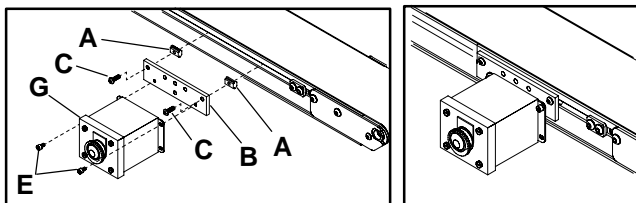

Figure 6
**NOTE:** For shipping, T-bars (A), Mounting Plate (B), Mounting Brackets (D) and Pushbutton Box (G) are pre-assembled. Detach all before proceeding.
1. Attach Pushbutton Box (G of Figure 6) to mounting plate (B) with screws (E).
2. Insert two Single Drop-in T-bars (A of Figure 6) into conveyor T-slot.
3. Attach Pushbutton Box assembly to T-bars (A) with screws (C).